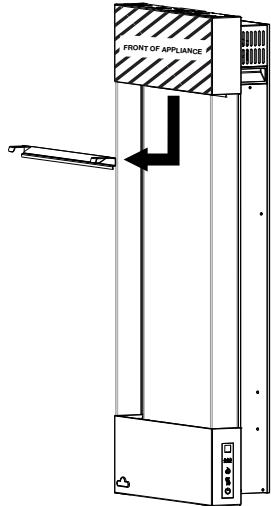

Fig. 1
1. Remove the retainer bracket by removing the 2 screws (**Fig. 1**). **Note the orientation of the retainer bracket.**